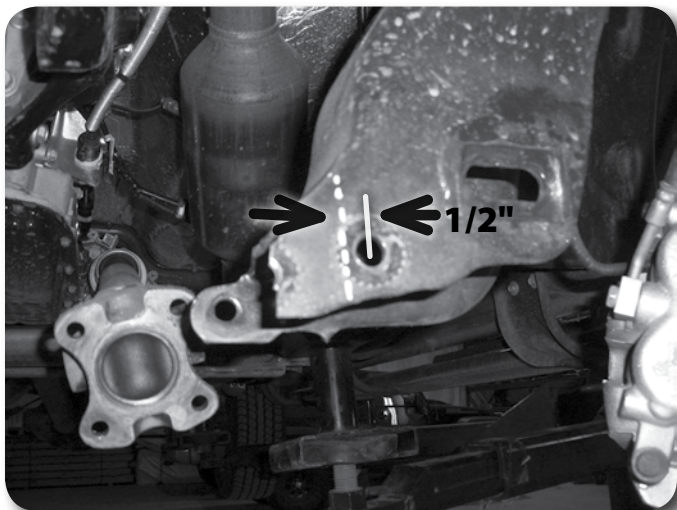

Figure. 11
30. The driver's side rear lower control arm pocket must be trimmed to provide clearance for the differential in its lowered position. Measure inward from the center of the outer crossmember mounting hole $\frac{1}{2}$ " and mark. Repeat on the opposite side of the pocket. Make a continuous line connecting the two marks over the top edge of the pocket. Trim the pocket on the line with a saw-zall or cut off wheel. Chamfer the corner $\frac{1}{4}$ " as shown. Paint any exposed metal to prevent corrosion Figure 11 / 12.